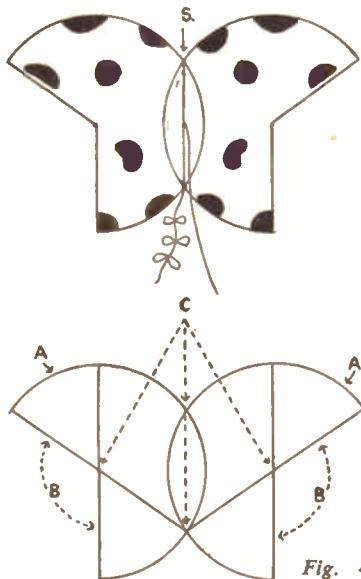

Fig. 4
This is a really lovely kite (Fig. 4) and most graceful in flight. Two 2ft. 6ins. lengths of split cane are required. These are bent to a curve as at (A). Tie a piece of strong string (B) to one end of each of these curved sticks, and take the string to a point 3ins. from the other end.